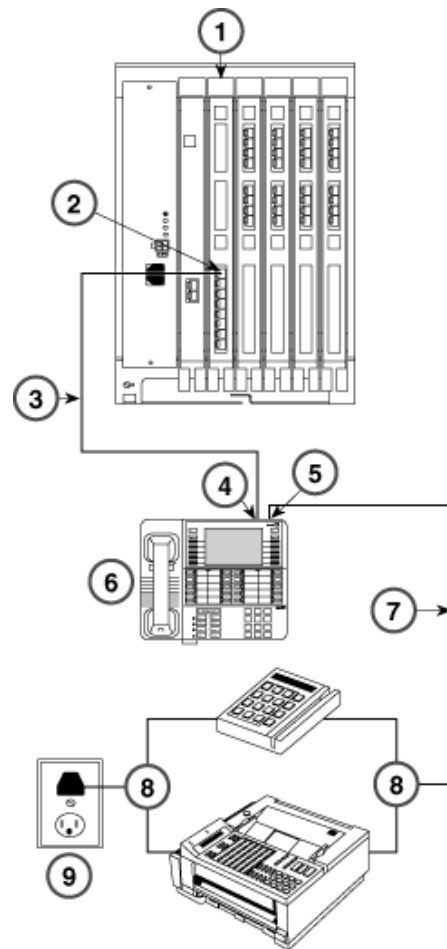

Figure 6-2. Analog Data with no External Modem through MLX Telephone with MFM
- Through an MFM installed in the base of an MLX telephone, as shown in Figure 6-2. Figure 3-36 “Setting and Adjusting the MFM Jumpers” on page 3-60 shows the required jumper settings for MFM Tip/Ring operation.
In Figure 6-2, the modem connects to the MLX telephone through the Tip/Ring interface of the Multi-Function Module (MFM), which is installed in the MLX telephone. The MFM allows the analog modem to connect to the digital telephone (the telephone plugs into the system through an MLX port on the control unit). Both the telephone and data terminal have their own extension numbers, operate independently, and are programmed independently. The telephone uses the main extension number (for example, extension 16 in a 2-digit numbering plan), and the modem